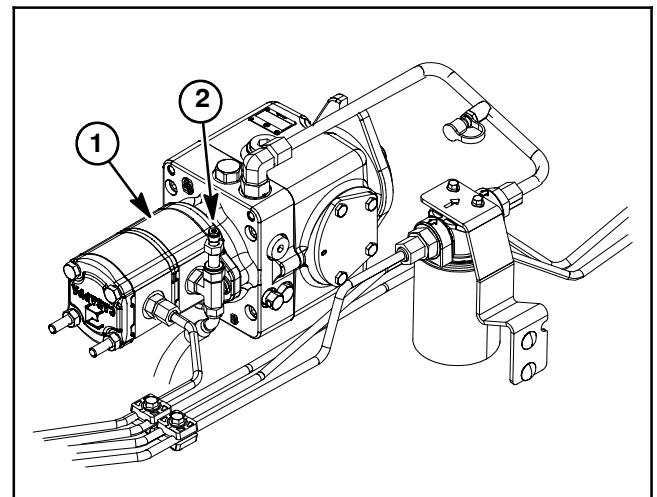

Figure 40
4. Thoroughly clean test port attached to tee fitting on 1st gear pump section (P1) (Fig. 40). Connect a 5000 PSI (350 bar) pressure gauge to test port.
6. Increase engine speed to high idle speed (**3000 RPM**). Make sure hydraulic oil is at normal operating temperature by operating the machine under load for approximately ten (10) minutes.